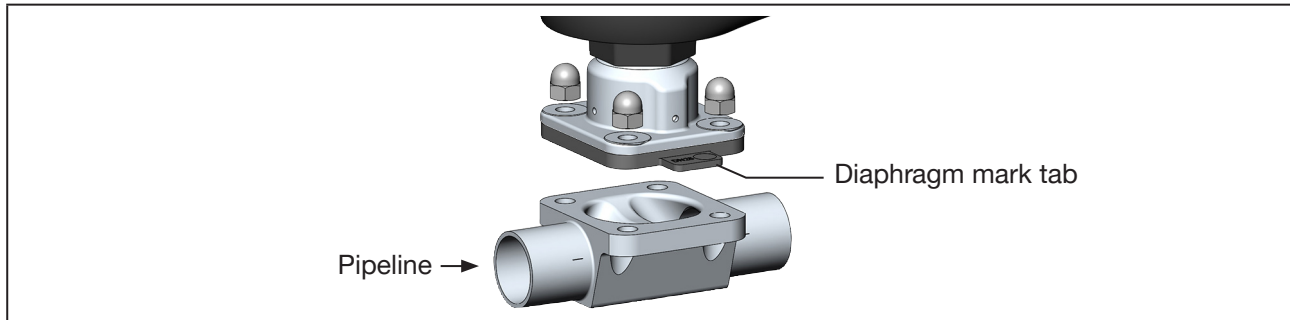

Fig. 74: *Aligning the diaphragm (example 2-way body)*
The mark tab of the diaphragm must protrude from the valve body at a right angle to the longitudinal axis of the pipeline (see “Fig. 74”).
→ Align diaphragm. The mark tab of the diaphragm must protrude from the valve body at a right angle to the longitudinal axis of the pipeline (see “Fig. 74”).
- Before installing the actuator, check whether the diaphragm is free of damage and correctly aligned. The mark tab of the diaphragm must protrude from the valve body at a right angle to the longitudinal axis of the pipeline (see “Fig. 74”).